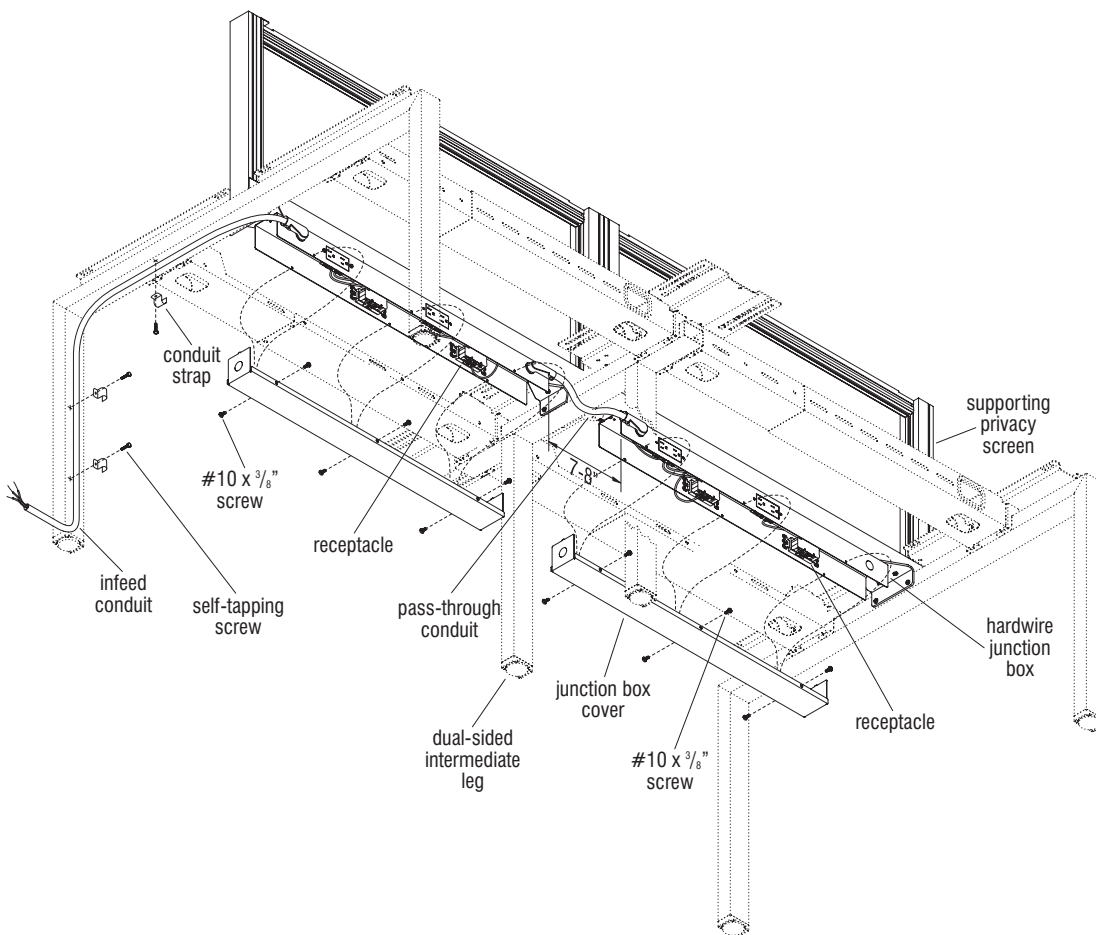

Figure 7
8. Secure the covers to the hardwire junction boxes using #10 x $\frac{3}{8}$ " screws at all required locations per box as illustrated (Figure 7).
Note: Three conduit straps are recommended to secure the flexible conduit to a dual-sided end leg. One may be installed under the leg on the horizontal member, and two are to be used on the vertical inside of the leg (Figure 7).
9. Position the flexible conduit (customer supplied) under the horizontal of the leg at an ideal location, place a conduit strap (customer supplied) into position and mark the mounting hole location. Do the same for the two mounting locations on the inside of the vertical leg member (Figure 7).
10. Position the flexible conduit and conduit straps out of the way. Use a hammer and punch to mark the mounting locations, then drill pilot holes using an appropriate size drill bit at each marked location (Figure 7).
11. Position the conduit straps over the flexible conduit and secure each to the leg using customer supplied self-tapping screws at the pre-drilled locations. Be careful to not over-tighten (Figure 7).